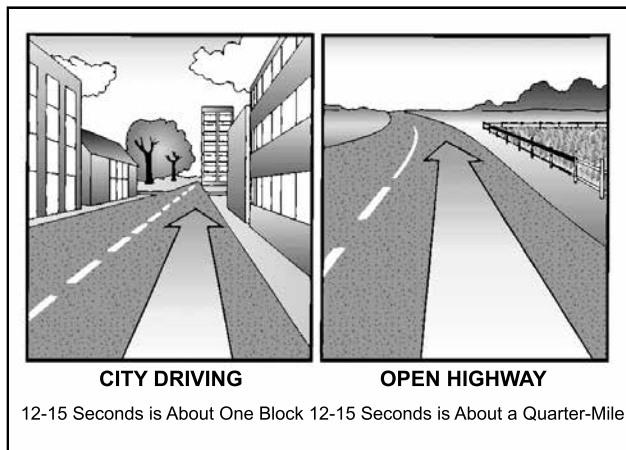

Figure 2.6
**How far Ahead to Look.** Most good drivers look at least 12 to 15 seconds ahead. That means looking ahead the distance you will travel in 12 to 15 seconds. At lower speeds, that’s about one block. At highway speeds it is about a quarter of a mile. If you are not looking that far ahead, you may have to stop too quickly or make quick lane changes. Looking 12 to 15 seconds ahead does not mean not paying attention to things that are closer. Good drivers shift their attention back and forth, near and far. Figure 2.6 illustrates how far to look ahead.